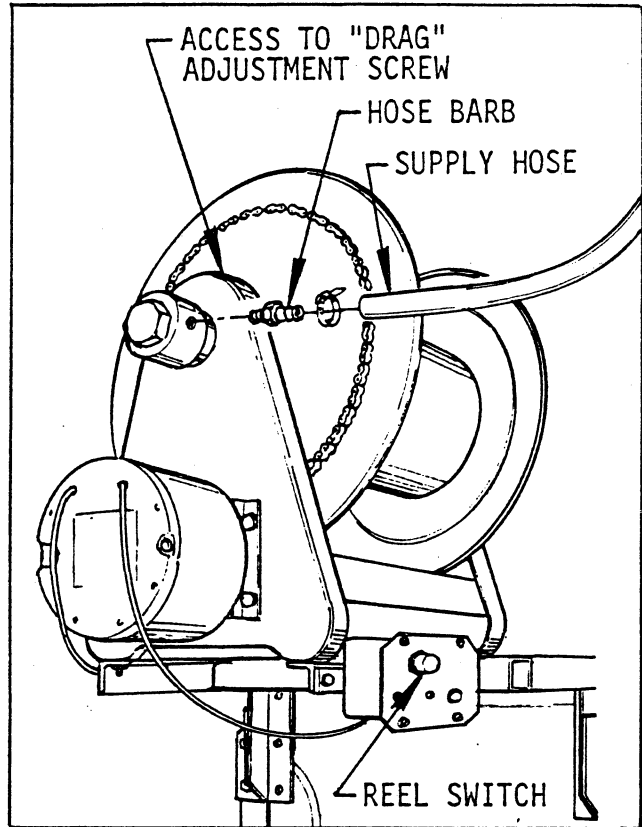

FIG. 3
- Install the hose barb into the Swivel Assembly as shown in FIG. 3 and secure the Supply Hose with a hose clamp.
Adjust Reel "drag" by loosening or tightening the set screw on the hub casting. See FIG. 3.